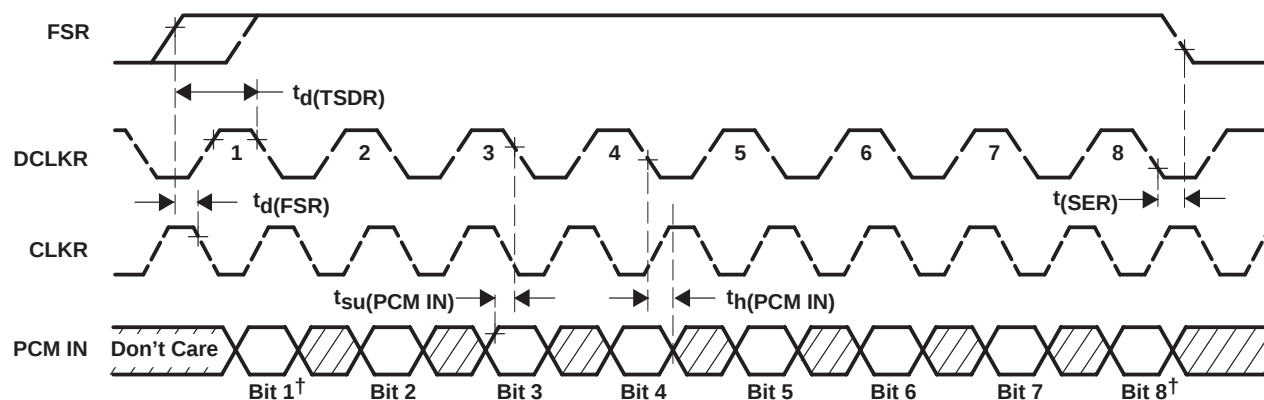

Figure 6. Receive Timing (Variable-Data-Rate)
**receive timing requirements over recommended ranges of supply voltages and operating free-air temperature, variable-data-rate mode (see Figure 6)**